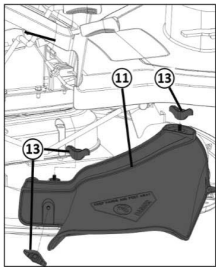
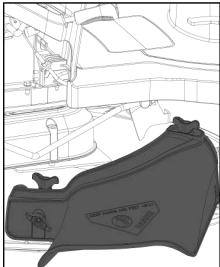

Figure 12
Figure 13
1. Install the discharge chute or mulching plug to the designated position of the ride on mower according to the method shown in Figure 12, and the installation status is shown in Figure 13.
1. Remove the discharge chute as shown in Figure 12.